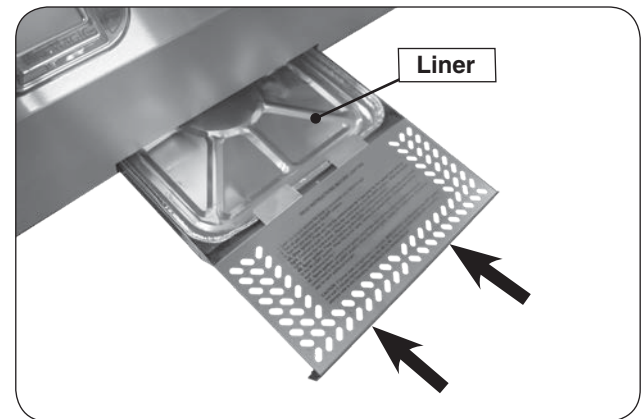

**Fig. 23-2** Install cooking grids
2. Insert the rear pointed-end of the lifter between the same two rods (Fig. 23-1, B) and carefully lift the cooking grid and place onto the front and rear grid rests of the grill (see Fig. 23-2). Repeat for all other cooking grids.